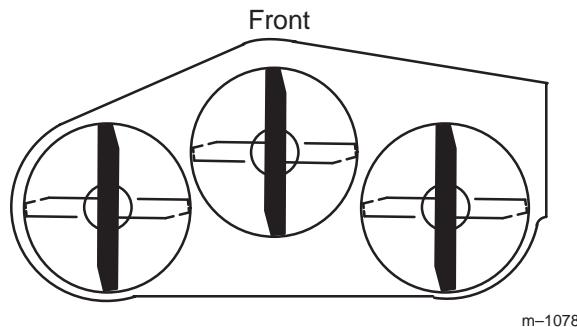
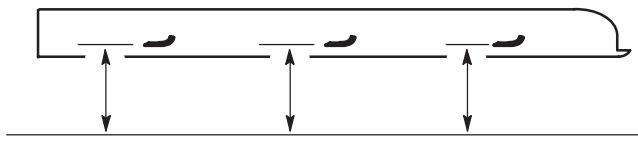

Figure 34
Figure 35
1. Rotate the blades until the ends face forward and backward (Fig. 34). Measure from a level surface to the cutting edge of the blades (Fig. 35). Note this dimension.